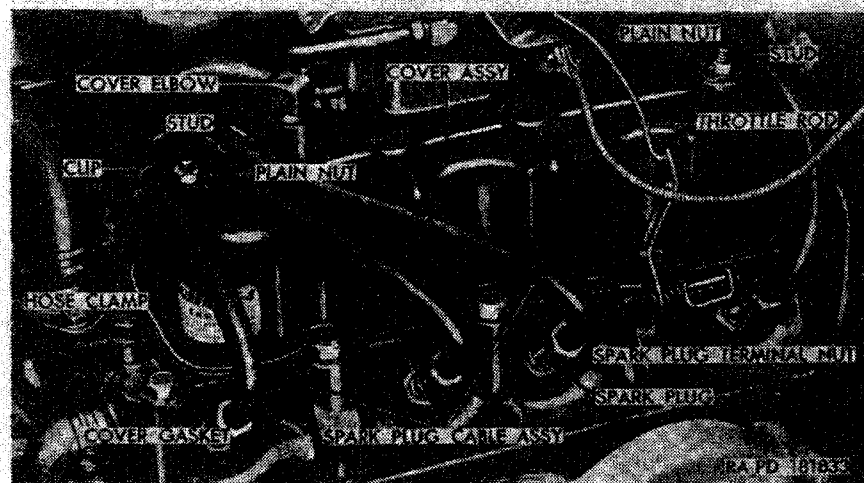

Figure 40. Rocker arm cover assembly installed.
- (1) Disconnect the spark plug cables from plugs and free the cables from the clips (fig. 40) that retain them.
- (2) Screw the rocker arm cover elbow (fig. 40) into the opening provided at the top front of the rocker arm cover assembly. Position elbow so its opening faces approximately 30° to the right.
- (4) Position the rocker arm cover in place on top of the cylinder head. Install a $\frac{5}{16}$ -inch gasket-type copper washer on each stud. Install three spark plug cable clips (fig. 40) with the longest first and following with the next longest and then the shortest in that order on the front stud. Install one short clip on the rear stud. Secure the cover by installing one $\frac{5}{16}$ -inch plain nut on each stud.
- (8) Connect the spark plug cables (fig. 40) to the spark plugs. Secure each cable in the clips installed on the studs that secure the rocker arm cover.
- (9) Adjust the hand throttle control wire stop (par. 135h(1)). Lower the hood (par. 255b).